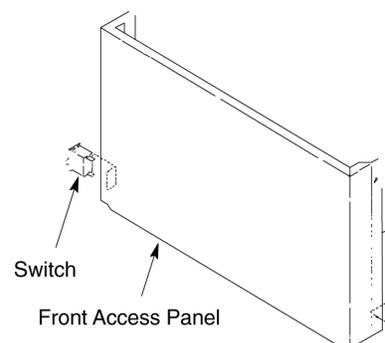

Figure 2. Remove Switch
4. Remove the switch from the panel by squeezing the clips that hold the switch into the panel. (See Figure 2.)